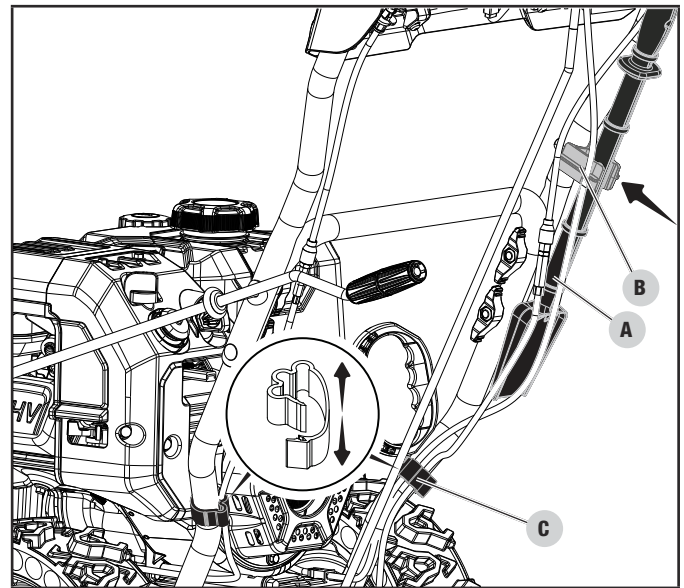

Figure 11
- Attach clean out tool (A) into clip (B) on right side handle bar (Fig. 11).
- Attach two clamps (C) on lower handle to hold cables coming from hand levers and to hold the LED light power cable. The clamps have an interlocking shape. Spread the clamps out axially into a spiral shape to slide the interlocking shapes into each other from the opposite edge (Fig. 11).